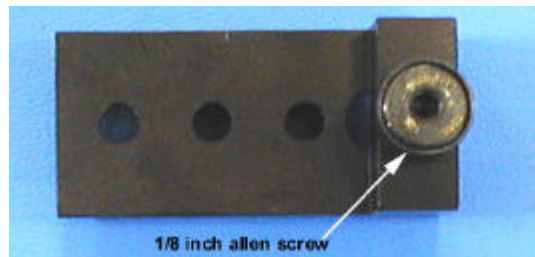

Figure 5-36 CAM Bearing Removal
4. Remove the bearing from cam follower bracket via the 1/8" allen screw. Remembering that the lock washer and nut on the other side will fall. See figure 5-36